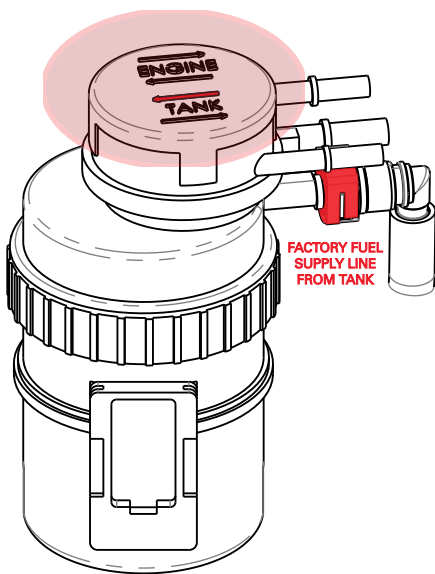

FIG. 5 FACTORY HOSE IDENTIFICATION
1. Locate the factory fuel supply line by starting at the factory fuel filter. Locate the larger lower red elbow connector (see Fig. 5), squeeze the coloured tabs to remove. Have a rag ready to capture any diesel that may spill out of the fuel line and the fuel filter.
3. Mount Z980K assembly onto metal bracket using the two (2) black M10 bolts supplied with the Z980K.